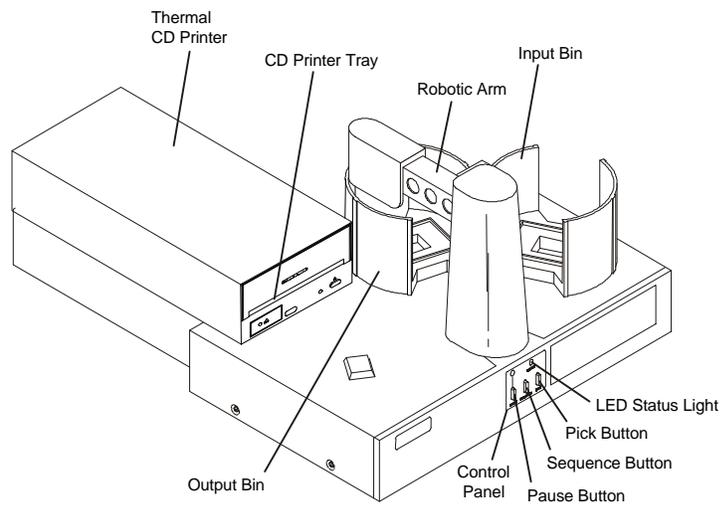
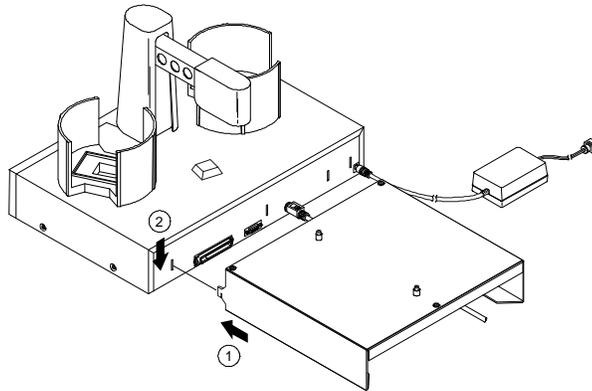

Figure 2: Conductor and Inscripta Thermal CD Printer
Figure 6: Attaching the Printer Stand
4. Attach the Printer Stand to the Conductor by locating the connecting tabs and inserting them into the appropriate slots on the rear panel of the Conductor. See illustration below for the slot locations. For the Signature III CD Color Printer, the stand is attached so that it is centered on Conductor as shown in Figure 6. For the Inscripta Thermal CD Printer, the printer is mounted on the left side of the Conductor as shown in Figure 2.